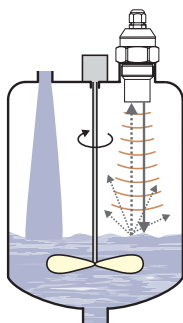

Fig. 10: Moderately stirred surface
- m) To lower the minimum distance to the medium measured, a **reflection board** made from solid, even and smooth material can be installed together with the level meter (Fig. 10). Subsequently, the tank can be filled nearly up to the maximum volume. The solution is suitable for open tanks and reservoirs.